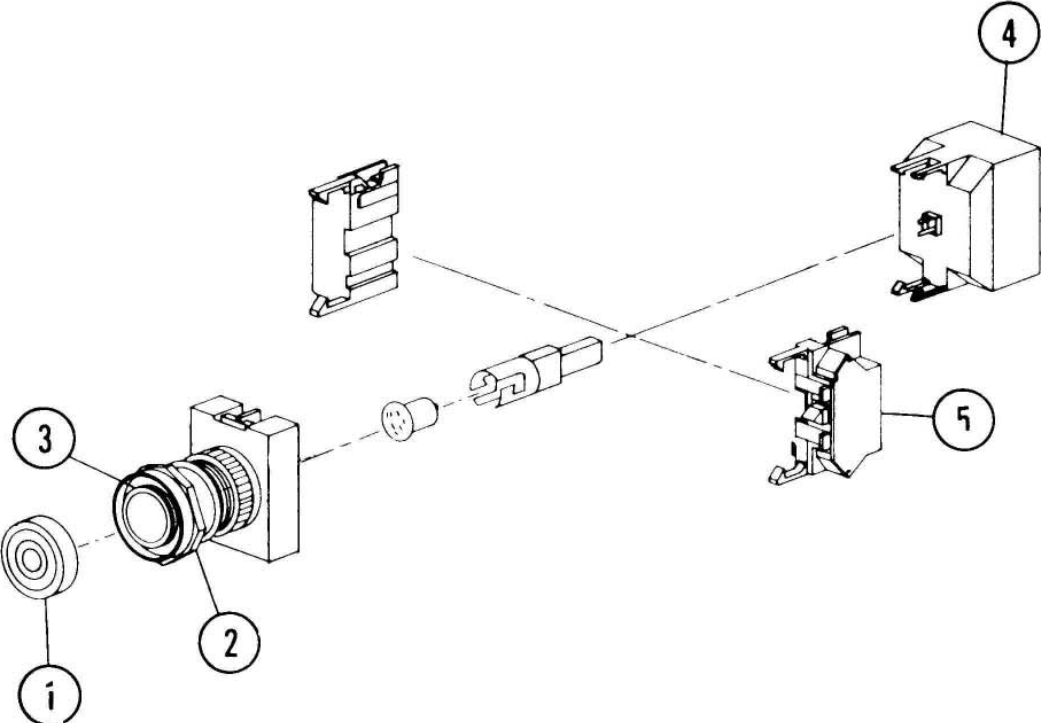

Figure 7.4.10
2. Disconnect two wires from float switch (10).
7.4.10 POWER or CYCLE START SWITCH REPAIR (See Figure 7.4.10)